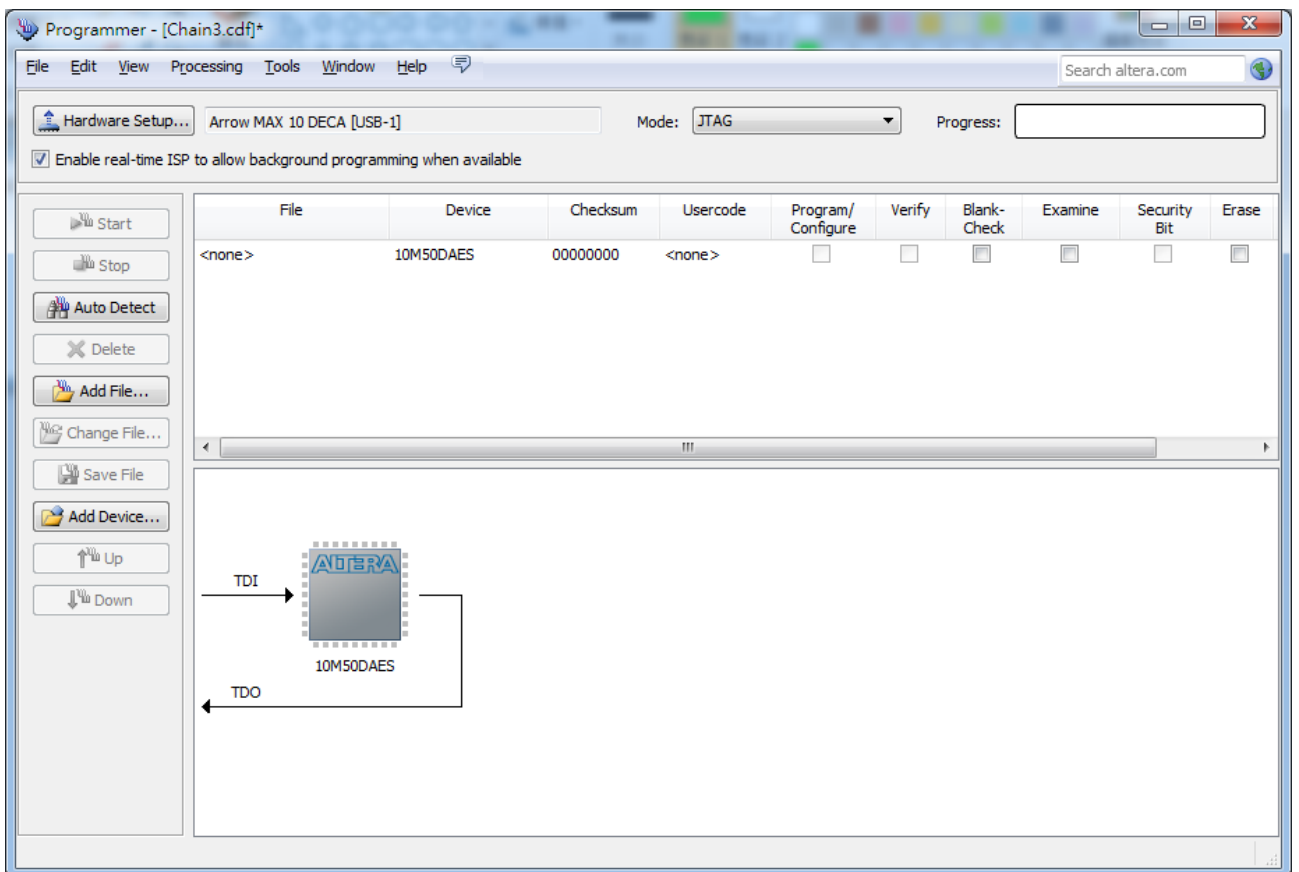

Figure 3-4 FPGA detected in Quartus programmer
3. FPGA is detected, as shown in **Figure 3-4**.